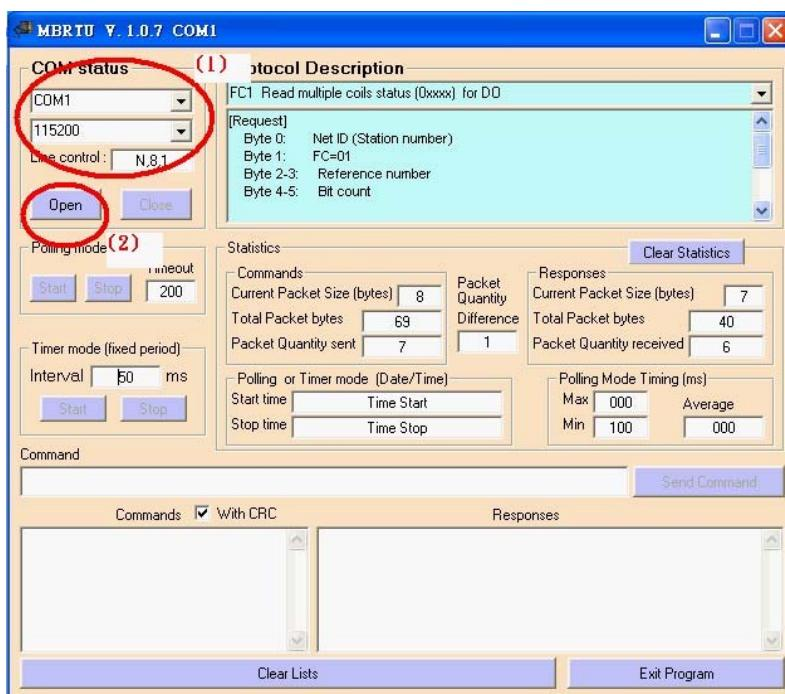

Figure 44 MBRTU Utility
-- Start the test utility “MBRTU” (*figure 44*) on the PC.